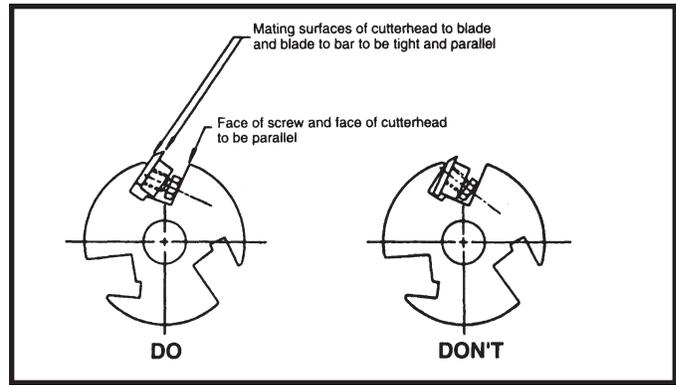

Fig. 58
**CAUTION** KNIVES MUST BE INSTALLED CORRECTLY AS SHOWN IN FIG. 58.